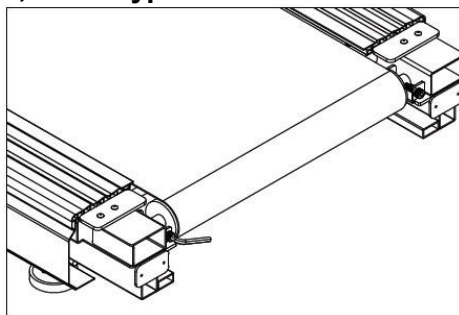

Figure 4.5.2
- 8) As shown in Figure 4.5.2, use L-type hex wrench to remove the two rear wheel screws.